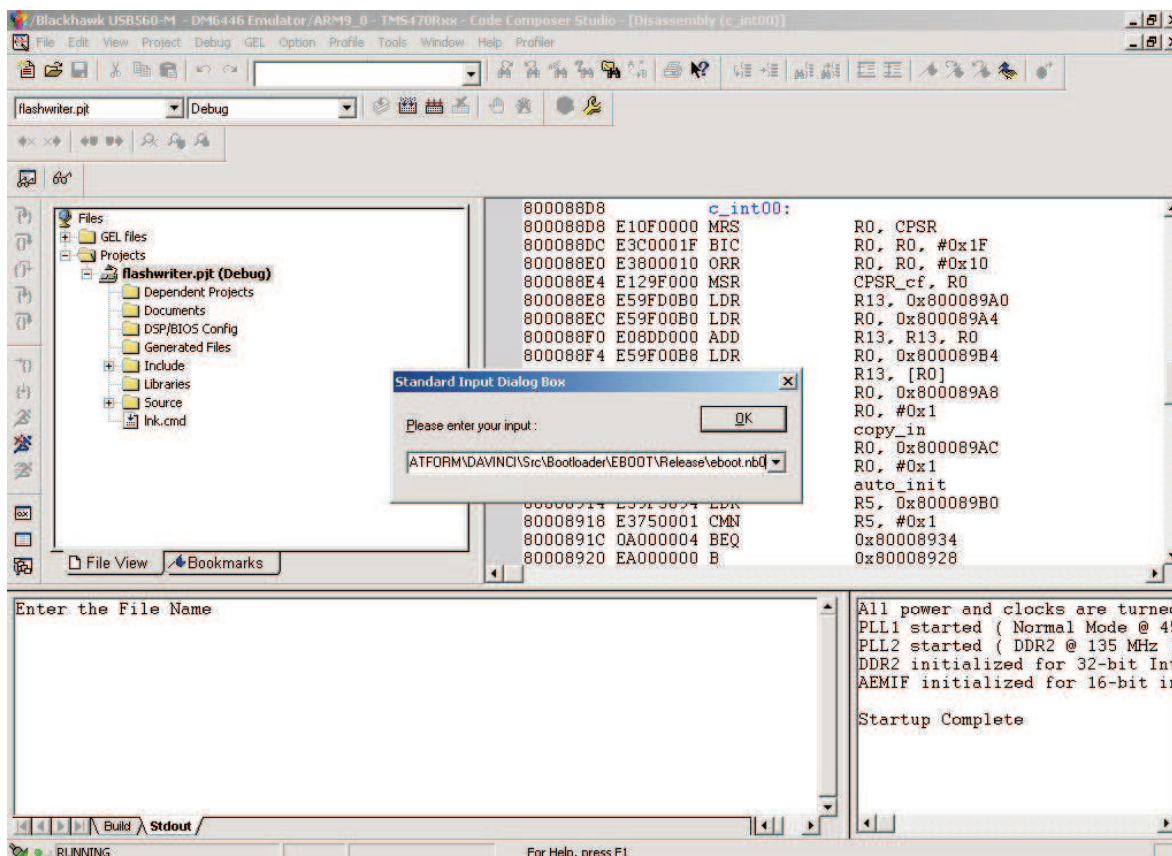

Figure 9. Code Composer Studio Program "File Path" Option
- Step 2. Enter the path of the eboot.nb0 file to be programmed into the prompt dialog window (as shown in Figure 9). This file can be found in the path: